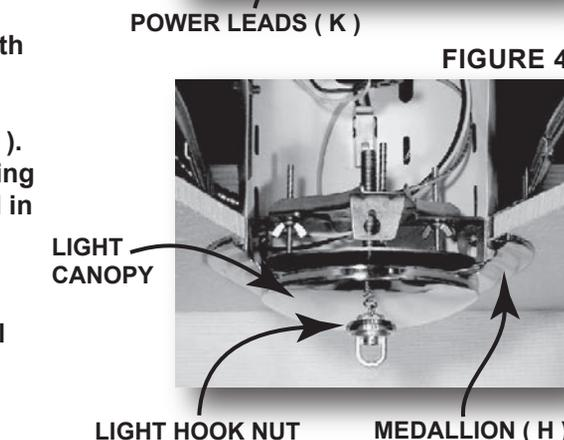
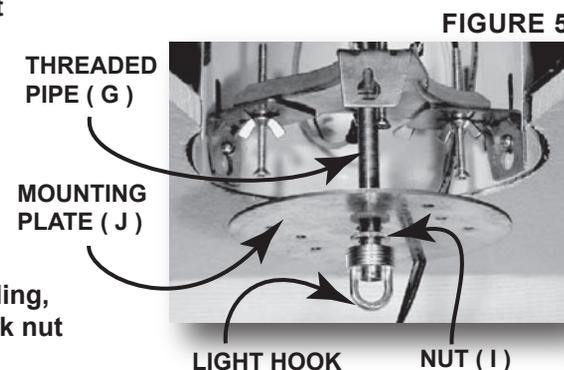

FIGURE 4
FIGURE 5
STEP 11. Install threaded pipe (G) into center hole on mounting bracket (C). Refer to installation instructions provided with light fixture on setting threaded pipe depth. IMPORTANT medallion (H) must be included in setting the threaded pipe depth (SEE FIGURE 4). When depth has been set remove medallion and light canopy then secure threaded pipe (G) with nut (I). Install mounting plate (J) onto threaded pipe (G) leaving space to make final electrical connections. Install nut (I) on threaded pipe (G) then attach light hook supplied with light fixture (SEE FIGURE 5).
STEP 12. Determine light fixture height and remove excess chain. Slide light hook nut onto light chain then light canopy followed by the medallion (H). Hang light on light hook. Insert light fixture power leads along with ground wire up through threaded pipe (G) (cut off excess wire). Make final electrical connections and verify all supply and grounding wires are secure and tight. Push wires up in can housing.
STEP 13. Spin mounting plate (J) up against phillips screws (F). Spin nut (I) up against mounting plate (J). Raise medallion (H) to ceiling, followed by the light canopy and secure in place with the light hook nut (SEE FIGURE 4).